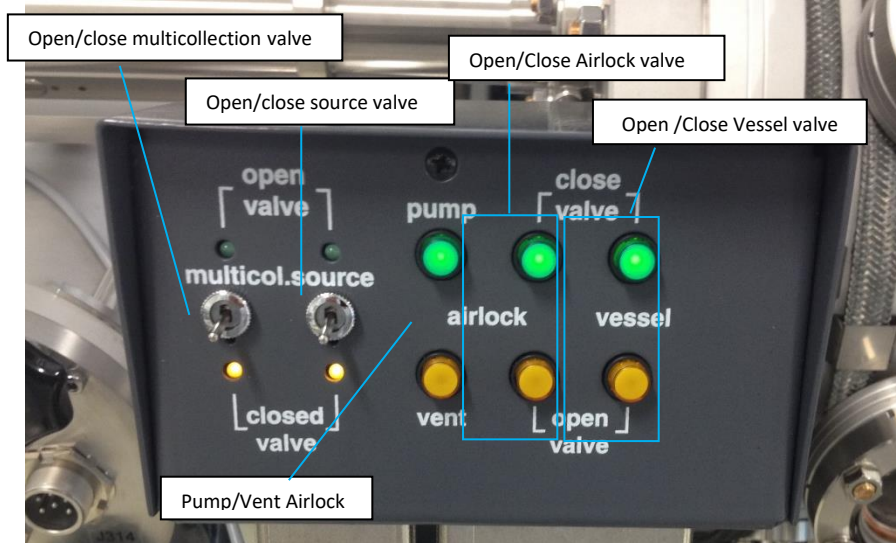

Figure 281: The Airlock control pad
- Vent the Airlock by pressing the 'Airlock Vent' button on the Airlock control pad. There is a 30s delay, during which the venting process can be aborted by pressing 'Pump'. Wait until the light stops blinking and the 'Vent' light stays ON (yellow means vented) (see Figure 281 and Figure 282).
- Pump the airlock by pressing the 'Airlock Pump' button on the Airlock control pad. There is a 30 second delay. Wait until the light stops blinking and the 'Pump' green light stays on (Figure 281).
- Open the airlock valve by pressing airlock 'open valve' on the airlock control pad (Figure 281). Wait until the 'open' light stays on (yellow).
- Close the Airlock valve by pressing 'Airlock Close Valve' on the Airlock control pad (Figure 281). Wait until the 'close' light stays on (green).
- Open the vessel valve by pressing vessel ‘open valve’ on the Airlock control pad (Figure 281). Wait until the ‘open’ light stays on (yellow).
- Close the Vessel valve by pressing the vessel ‘close valve’ on the airlock control pad (Figure 281). Wait until the ‘close’ light stays on.